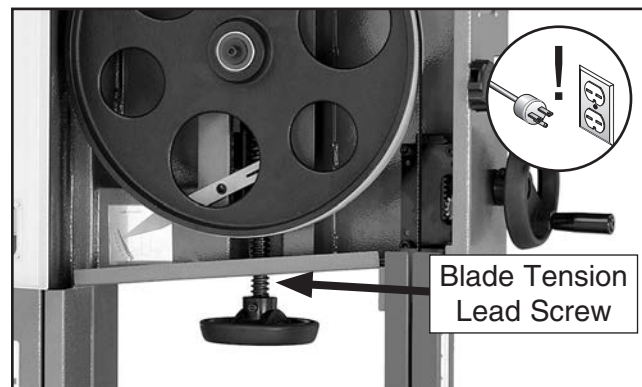

Figure 55. Blade tension leadscrew.
2. Wipe as much of the old grease off the leadscrews (**Figures 55 & 56**) as possible. The old grease will be contaminated with wood or metal dust, so you want to remove as much of it as possible.